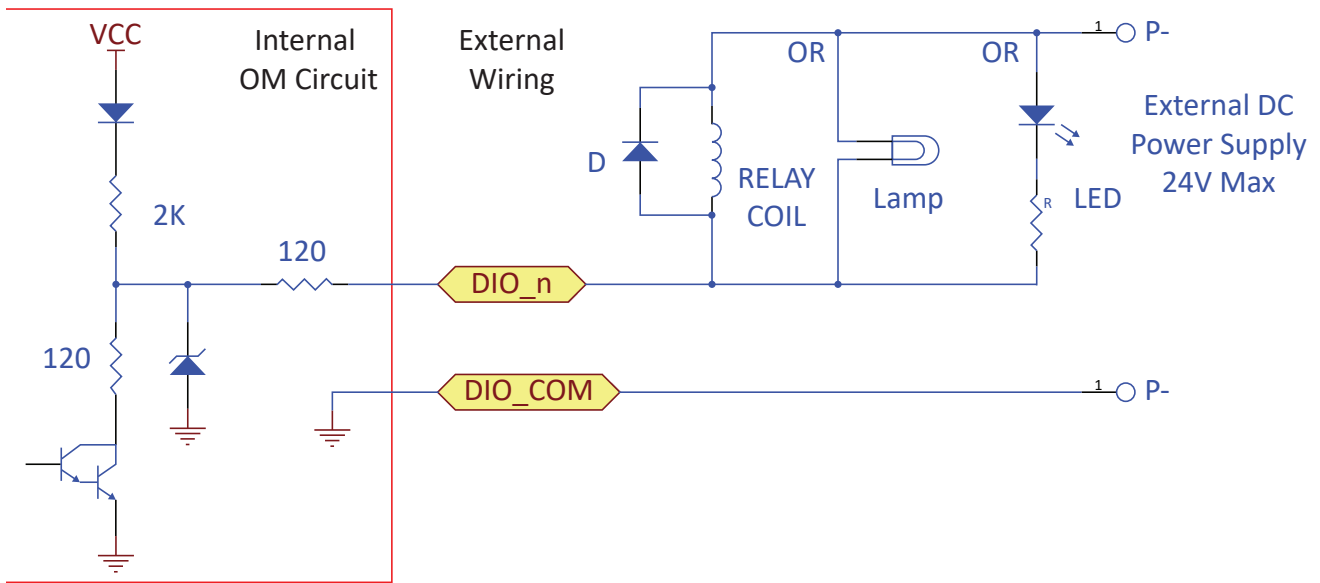

Figure 8
11.10.1 A DIO output is designed for low true operation. It is able to sink current up to (50 mA) to directly drive small relay coils or lamps. Here is an example of a DIO being used to drive low true outputs. This mode requires an external power supply as shown in the drawing below. See *Figure 8*.